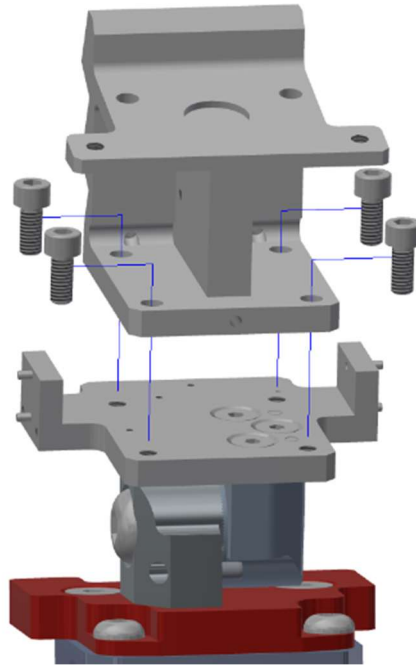

Figure 6-40. Install Lower Spine Box Assembly (474-3101-A) to the Lumbar Posture Adjustment Spinebox Interference Plate (474-3072)
- 6.3.10 Attach the Lower Spine Box Assembly (474-3101-A) to the Lumbar Posture Adjustment Spinebox Interference Plate (474-3072) using four M6 X 1 X 14 LG. SHCS (Figure 6-40).